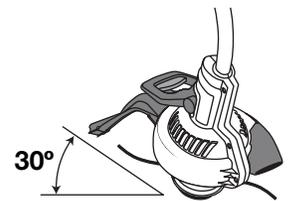

Fig. 9
1. If the shift handle is in the DOWN position, grasp the red shift latch (Fig. 9) on the shift handle and squeeze until the internal locking mechanism releases.
Decorative trimming is accomplished by removing all vegetation around trees, posts, fences and more. Rotate the whole unit so that the cutting attachment is at a 30° angle to the ground (Fig. 9).